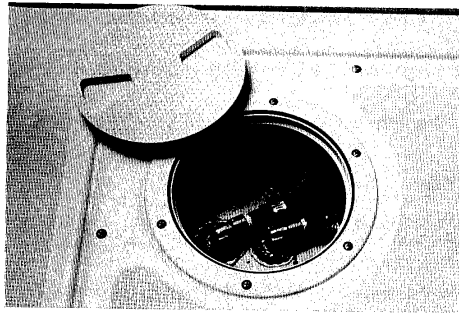

Figure 21
3. Remove the inspection plate over the fuel tank. Make sure all fuel lines and fittings are tight. See figure 21.